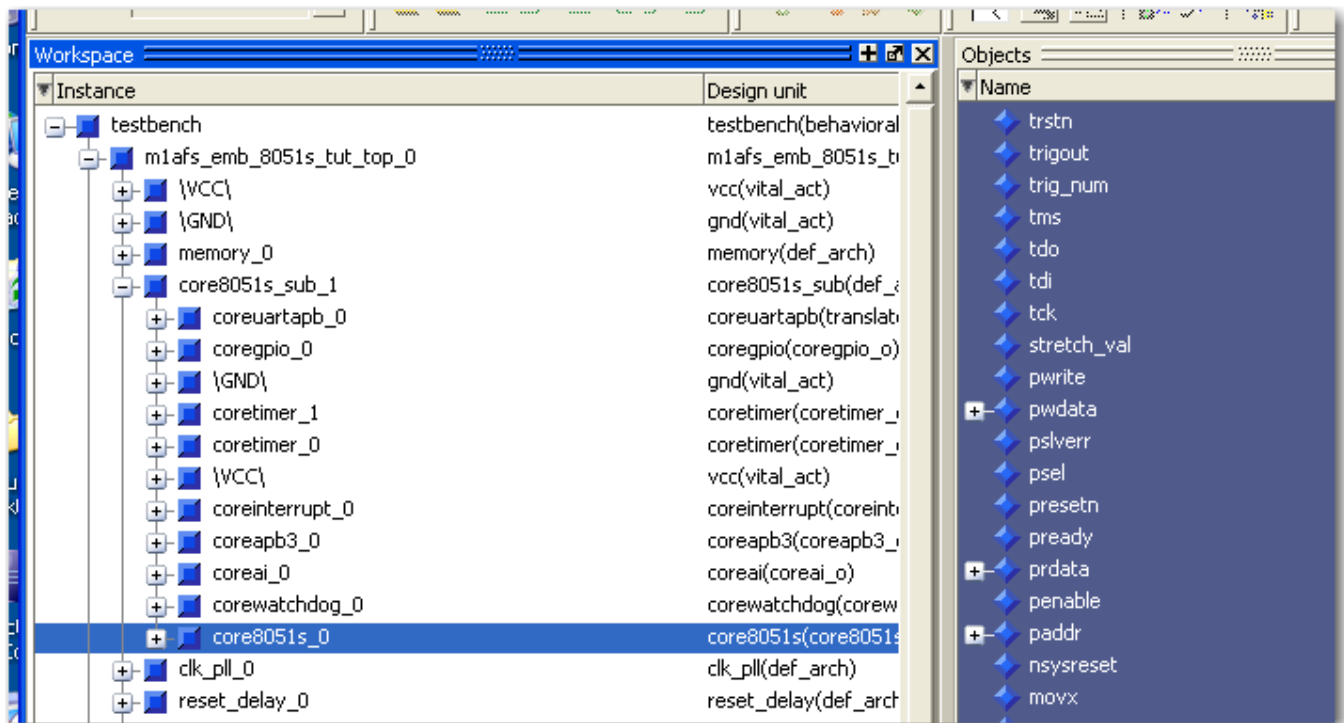

Figure 3-1 · Selecting Core8051s Signals
5. In the objects window, click and add the following signals to the simulation: clk, nsysreset, mempsacki, mempsrd, memaddr, and memdati (Figure 3-1).